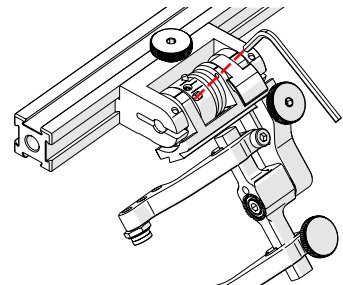

Fig. 179 - Unlatched position
3. Insert the short arm of a 3 mm hex wrench into the 3 mm slot (Fig. 179).